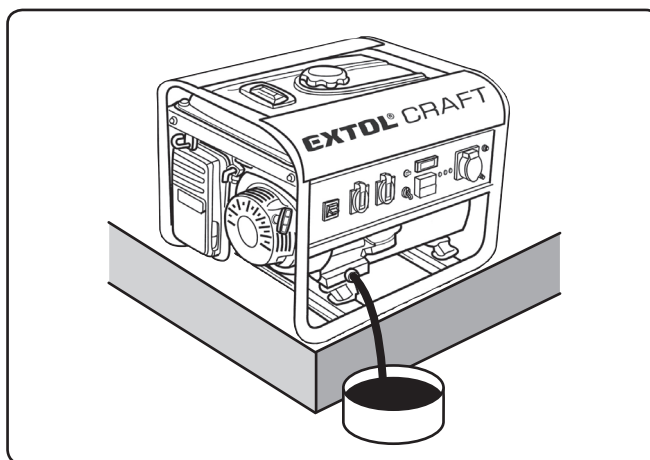

Fig. 22
1. To drain the oil from the oil pan of the generator's engine, raise it in a higher position to enable oil to flow out into a prepared container (see fig. 22).